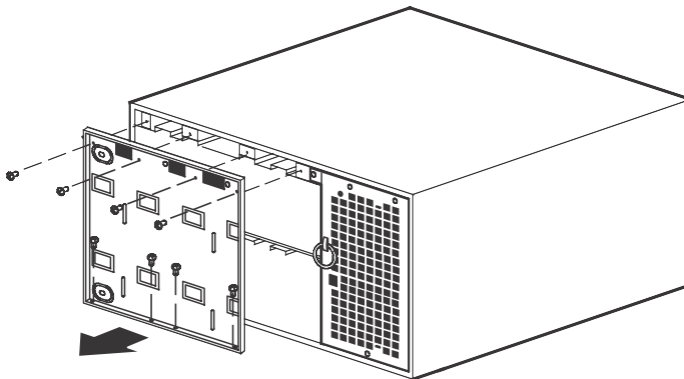

Figure 55. Removing the UPS Battery Cover Plate
2. Remove the eight screws on the battery cover plate and retain. Remove the plate and retain. See Figure 55.